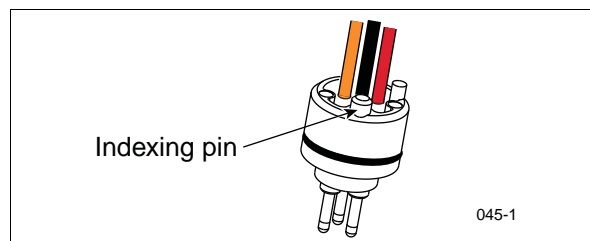

Figure 33. Male Connector's Indexing Pin
10. Notice the small indexing pin on the back of the male connector (see Figure 33).